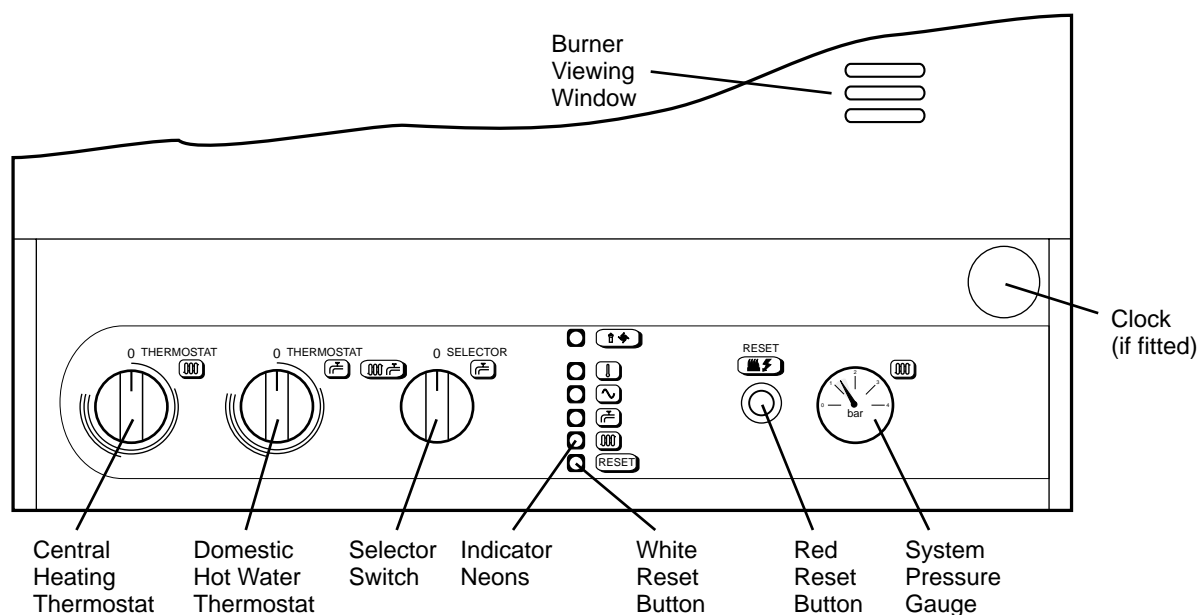

Fig. 18
### 5.2 BOILER CONTROLS - Fig. 18
## 5.4 INITIAL LIGHTING - Refer to Fig. 18
-  Overheat thermostat has operated - press **white** reset button (see Fig. 18) to reset.
When the red reset button (  ) is illuminated it indicates that the burner has failed to light - Press the **red** reset button (see Fig. 18) and the ignition sequence will restart.